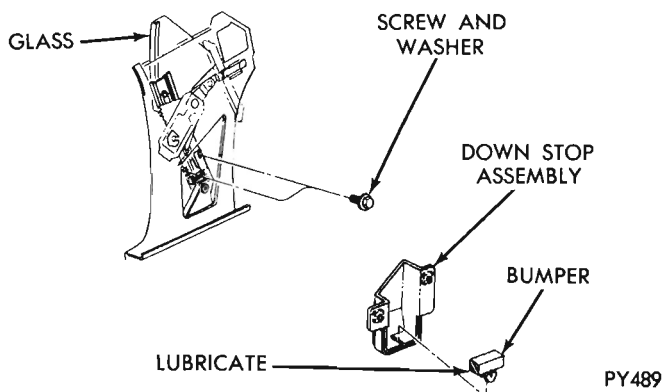

Fig. 11 - Down Stop and Bumper
**DOWN STOP AND BUMPER (Fig. 11)**
- (1) Assemble bumper to down stop.
- (2) Raise glass to half open position.
- (3) Install bumper and down stop assembly thru major access hole in quarter inside panel. Position to front track slots in full down position.
- (4) Secure with screw and washer.